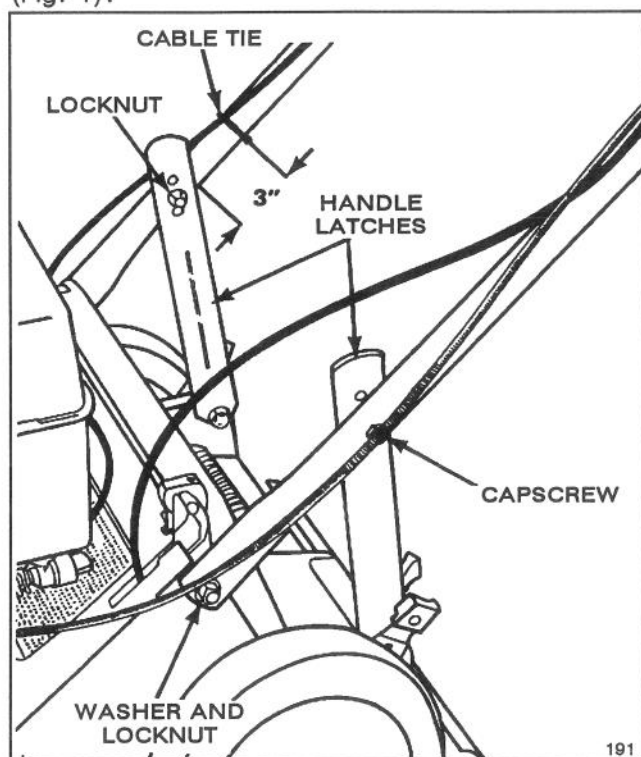

Figure 1
1. Spread handle ends and slide onto mower housing mounting studs (Fig. 1). Secure each side of handle to mounting stud with a washer and locknut.
2. Pivot handle latches backward and secure to insides of handle with (2) capscrews and (2) locknuts (Fig. 1).
3. Secure control cable to right side of handle approximately 3" above handle latch with cable tie (Fig. 1).